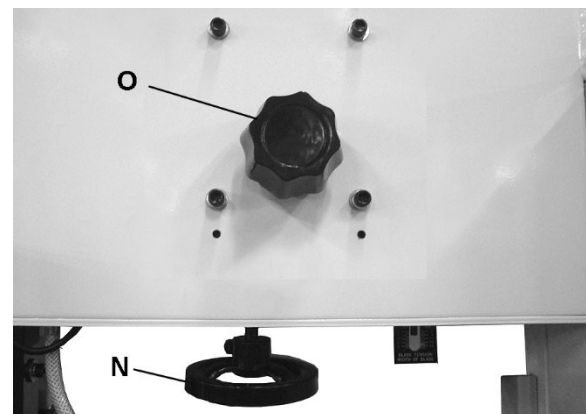

Figure 4
**Blade Tension Handwheel (N, Figure 4)** – located on underside of upper frame. Turn clockwise to tension blade; counterclockwise to release tension on blade.
**Blade Tracking Handle (O, Figure 4)** – located at upper rear of saw. Turn clockwise to track blade toward front of blade wheel. Turn counterclockwise to track blade toward rear of blade wheel.